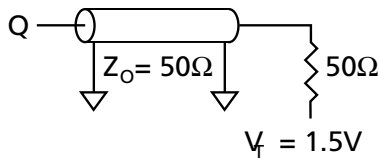
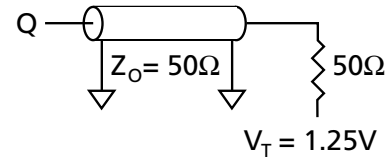

Figure 1
Figure 3
9. Test conditions as specified with output loading shown in Figure 1 for 3.3V I/O ($V_{DDQ} = +3.3\text{V} \pm 0.165\text{V}$) and Figure 3 for 2.5V I/O ($V_{DDQ} = +2.5\text{V} +0.4\text{V}/-0.125\text{V}$).
Output load	See Figures 1 and 2
Output load	See Figures 3 and 4